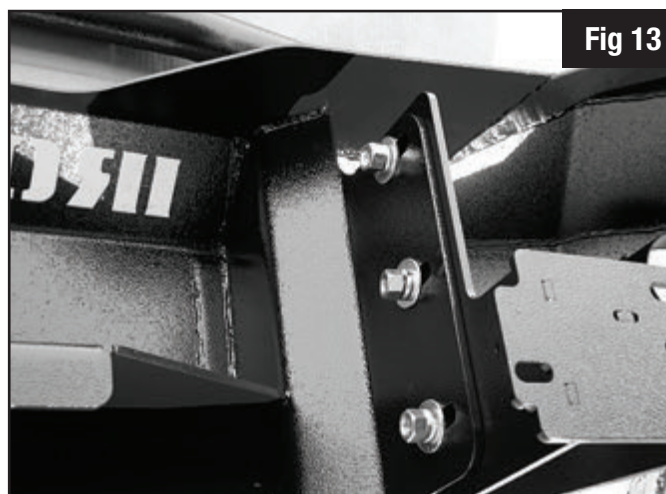

Fig 13
- 3) Tighten all fasteners - beginning with frame mounts. Then tighten all mount-to-bumper fasteners. **Fig 13.**